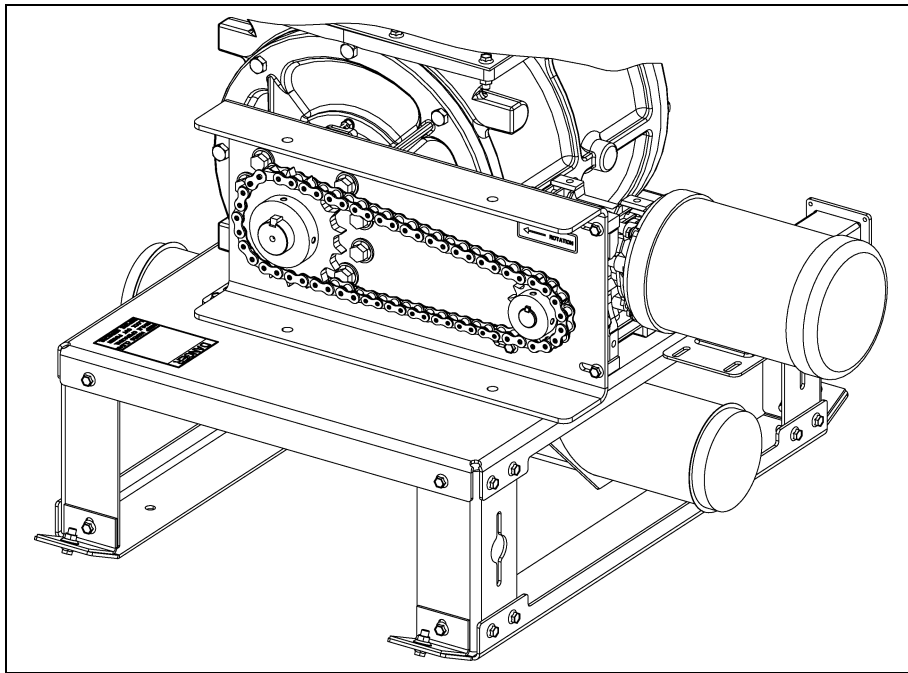

Figure 7M
- Next, install the chain on to the sprockets and apply tension by sliding the gearbox to the right. (See Figure 7M.) Tighten the four (4) 3/8" flange bolts on the two (2) drive mount bars.